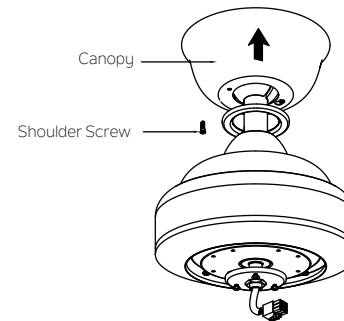

Fig. 14
Step 2. Assemble canopy by rotating key slot in canopy over shoulder screw in mounting bracket. Reinstall the shoulder screw that was previously removed, then retighten two shoulder screws securely.(Fig.14)